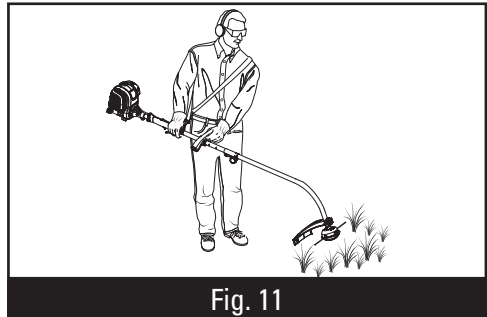

Fig. 11
1. Hold the trimmer with your right hand on the rear handle and your left hand on the front handle. Keep a firm grip with both hands while in operation. Trimmer should be held at a comfortable position with the rear handle about hip height, Fig.11.